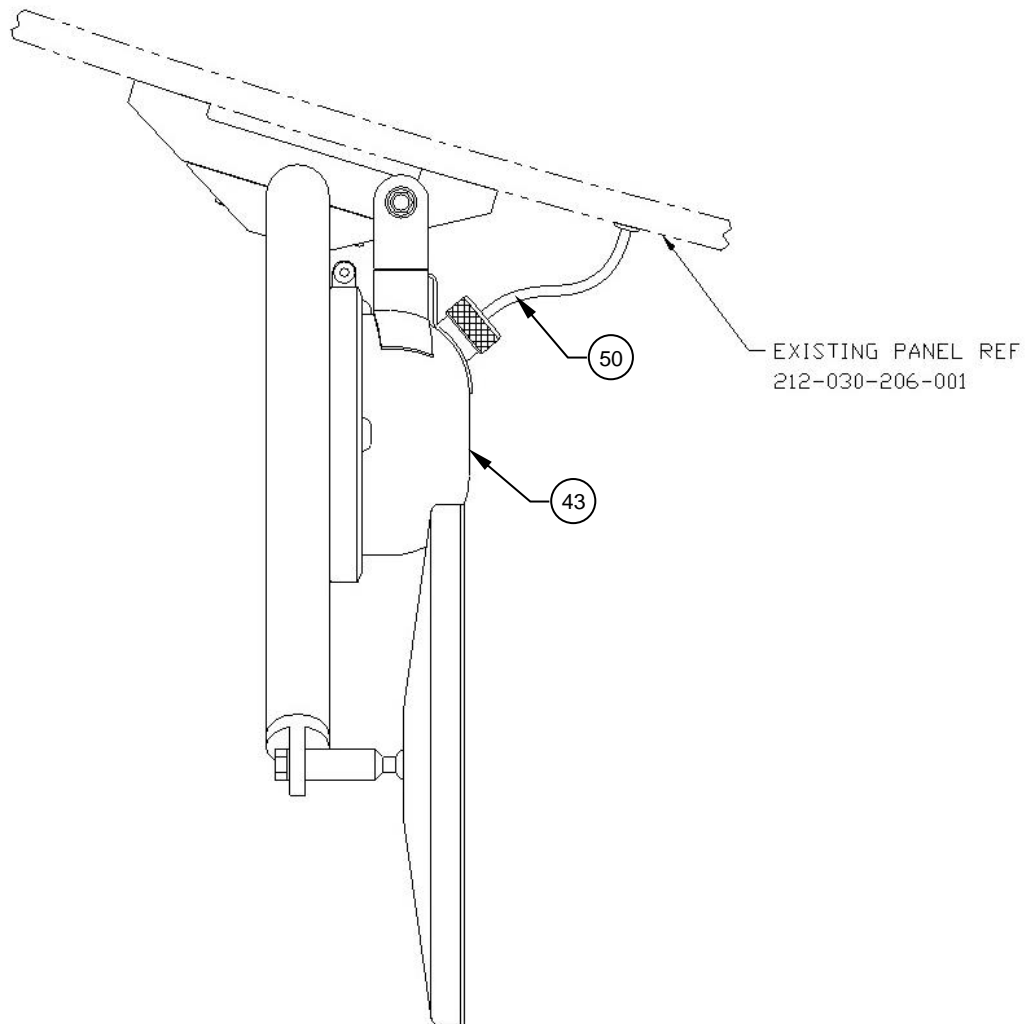

Figure 8
19. Connect the Wiring Harness, Assy (Item 50) to the appropriate Housing, Assys (Item 43) and assemble with the Lamp, Assys (Item 44). Reference Figures 8, 9 & 11.